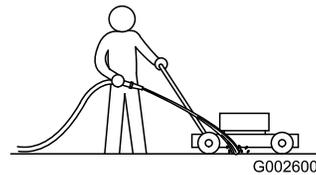

Figure 28
- With the engine running on a flat paved surface, spray a stream of water in front of the **right** rear wheel (Figure 28).